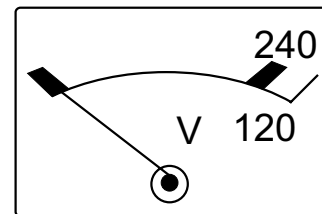

Figure 55. AC Voltmeter (Zero Volts)
8. Verify that the AC voltmeter (Figure 55) on the generator reads zero volts.